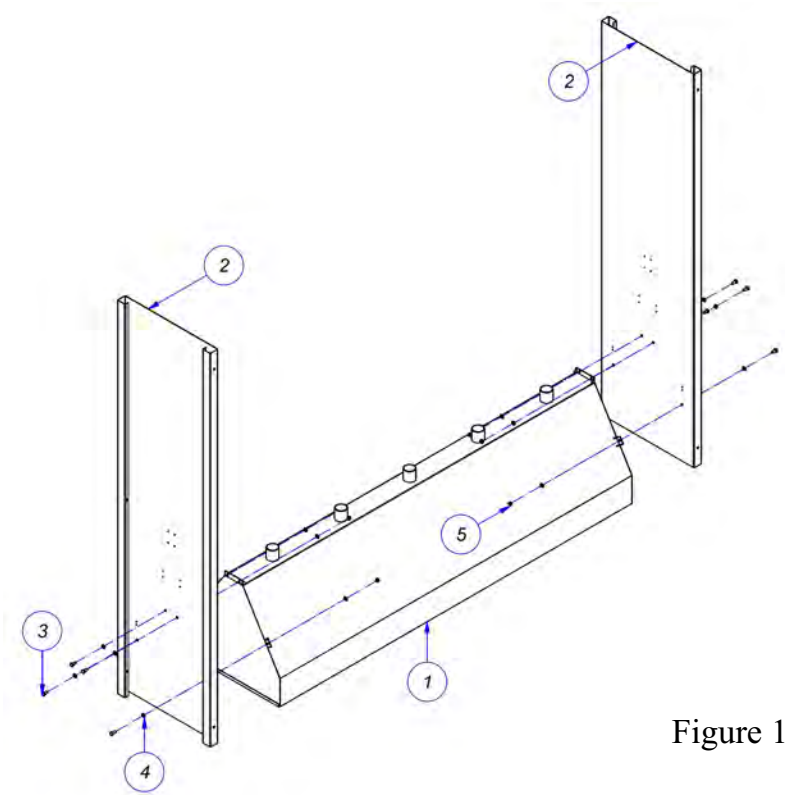

Figure 1
Step 1: Place the mud holding tank upside down, and then attach two side panels with smooth side facing in (Figure 1)